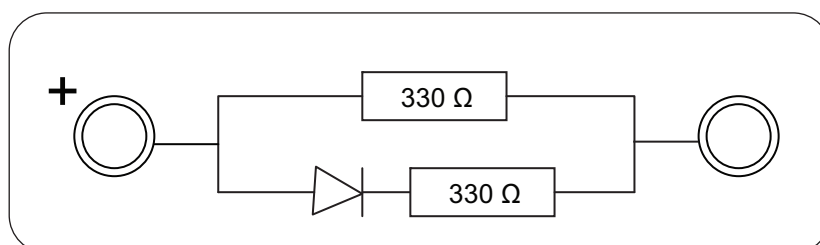

Fig. 4.1
- (d) Solder the diode to a 330 Ω resistor so they are in series and solder both into the channel so that the diode anode is attached to the LH socket (viewed from the outside). Solder a second 330 Ω resistor in parallel with the diode and the first 330 Ω resistor. Label this component channel 'Q'. Mark the LH socket '+' and use masking tape to cover the resistor and diode so that they cannot be seen. See **Fig. 4.1**.